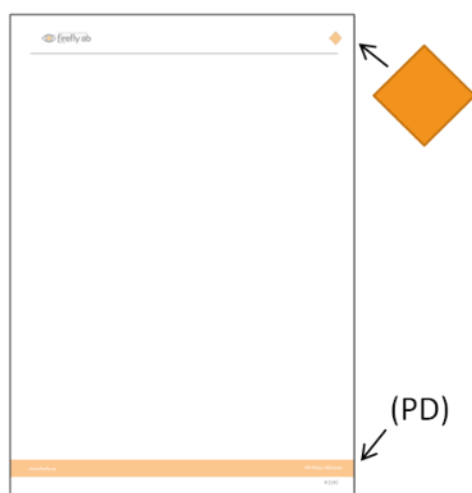

Figure 2
The actual symbol is found in the upper right corner of the document. The document type is shown in the document's footer. *Figure 2* shows an example of a product description (PD).